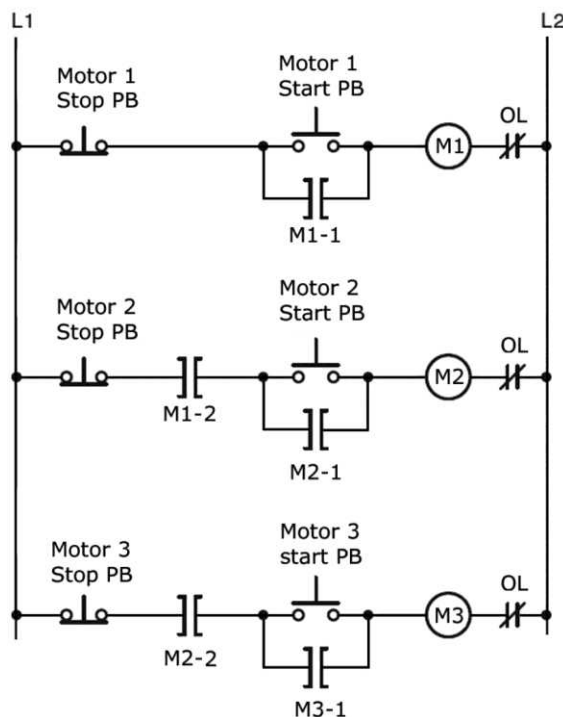

Figure 6-45
27) Prepare an I/O connection diagram and ladder logic program for the hardwired electrically interlocked motor control circuit shown in Figure 6-45. This circuit is designed to avoid the motors from accidentally operating in an order other than their proper sequence. Enter the program into the PLC, and prove its operation.